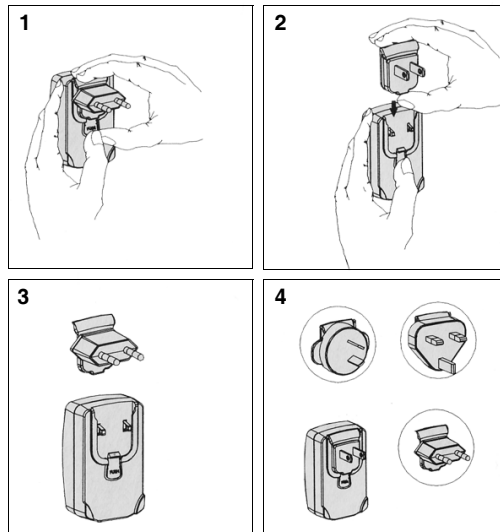

Fig. 1 Fitting the mains plug adapter
- ▶ See *Fig. 1* and follow the instructions which are shown on the packaging of the mains plug adapter.